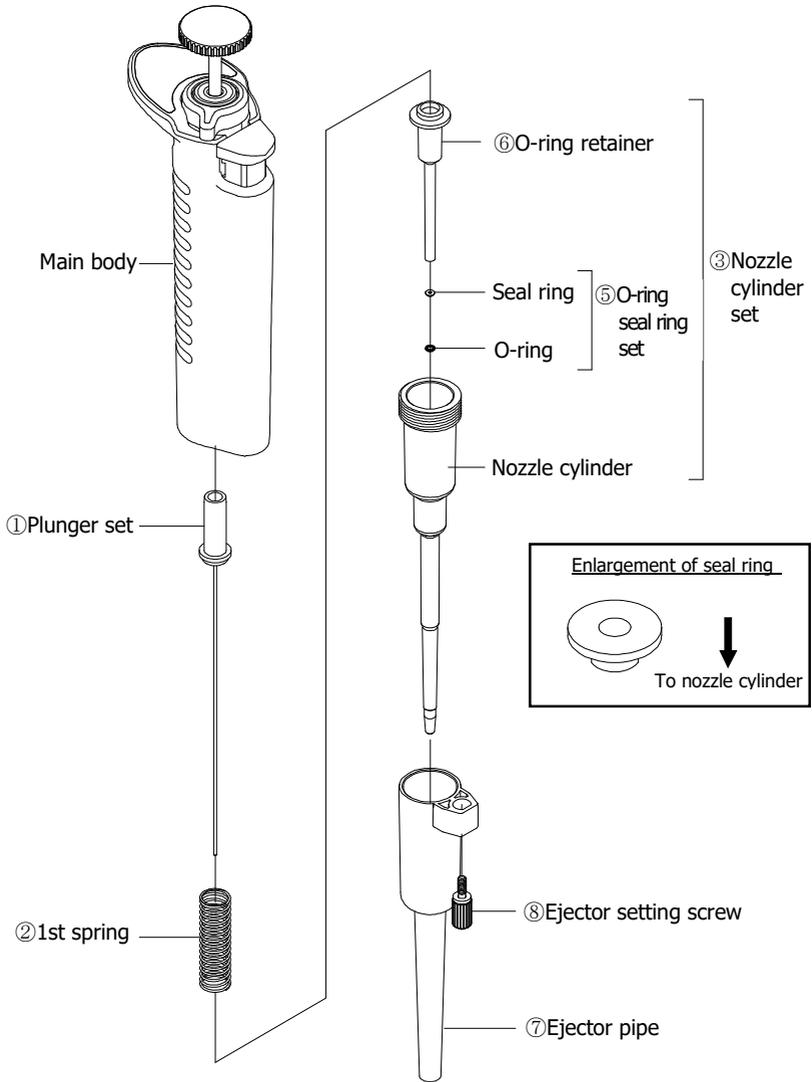
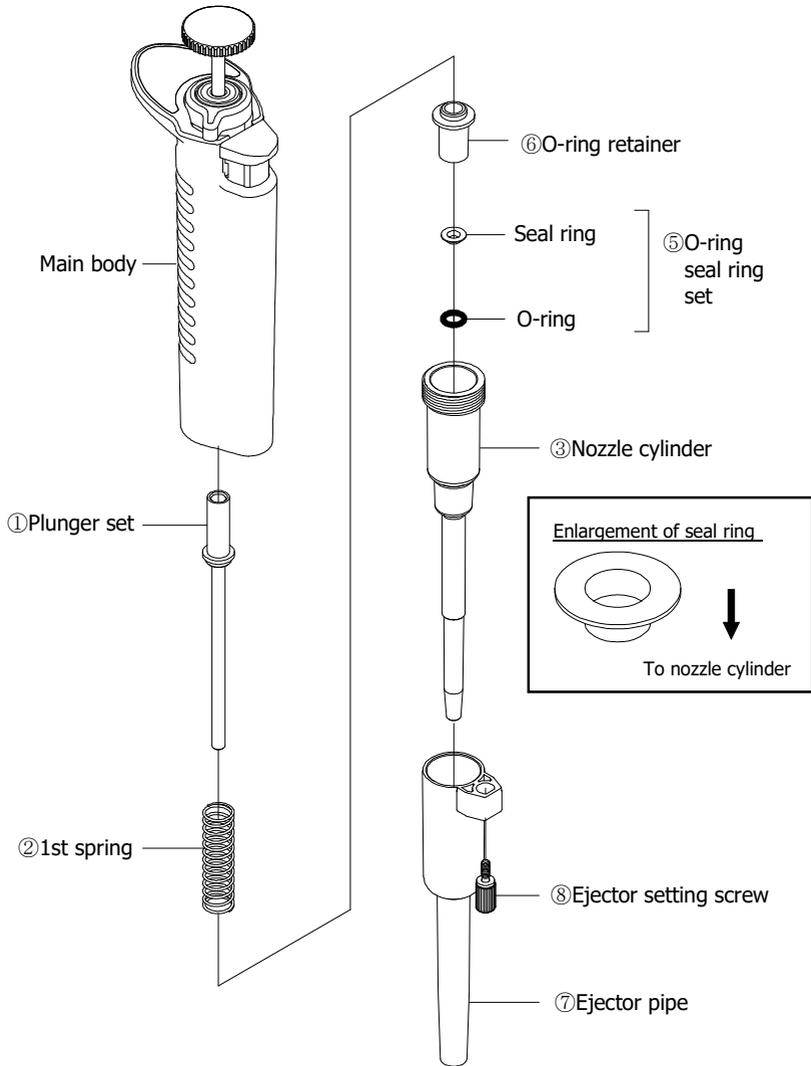
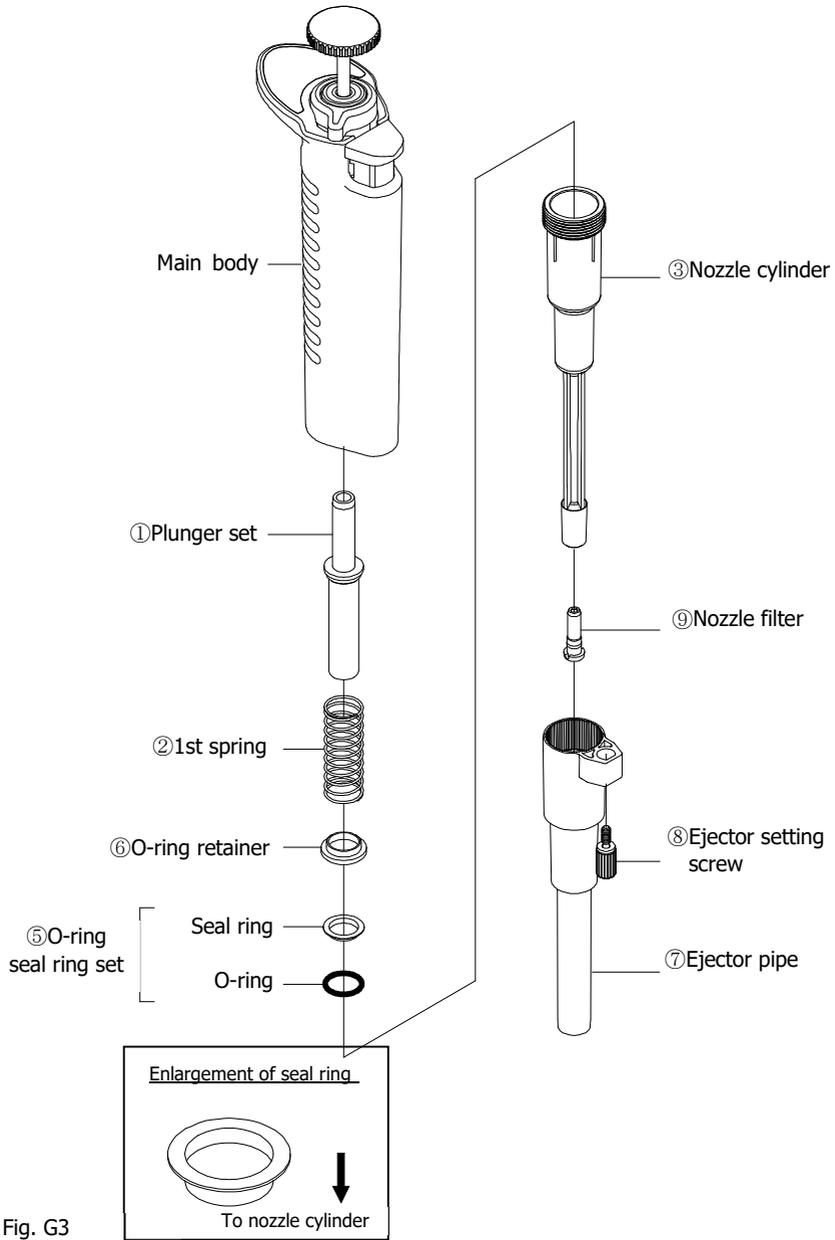

Fig. G1
Fig. G2
Fig. G3
- 3) Disassemble the internal parts as shown in; (Fig. G1) for Models: 2 $\mu$ L, 10 and 20 $\mu$ L, (Fig. G2) for Models: 100 $\mu$ L and 200 $\mu$ L, and (Fig. G3) for the Model: 1000 $\mu$ L.
- For models: 2 $\mu$ L, 10 $\mu$ L, 20 $\mu$ L (Fig. G1), 100 $\mu$ L and 200 $\mu$ L (Fig. G2), 1000 $\mu$ L (Fig. G3)
- Models: 2 $\mu$ L, 10 $\mu$ L, 20 $\mu$ L (Fig G1), 100 $\mu$ L and 200 $\mu$ L (Fig. G2), 1000 $\mu$ L (Fig. G3)
Circled Numbers in (Fig. G1) corresponds to Parts Numbers in the replacement parts list.
Circled Numbers in (Fig. G2) corresponds to Parts Numbers in the replacement parts list.
Circled Numbers in (Fig. G3) corresponds to Parts Numbers in the replacement parts list.